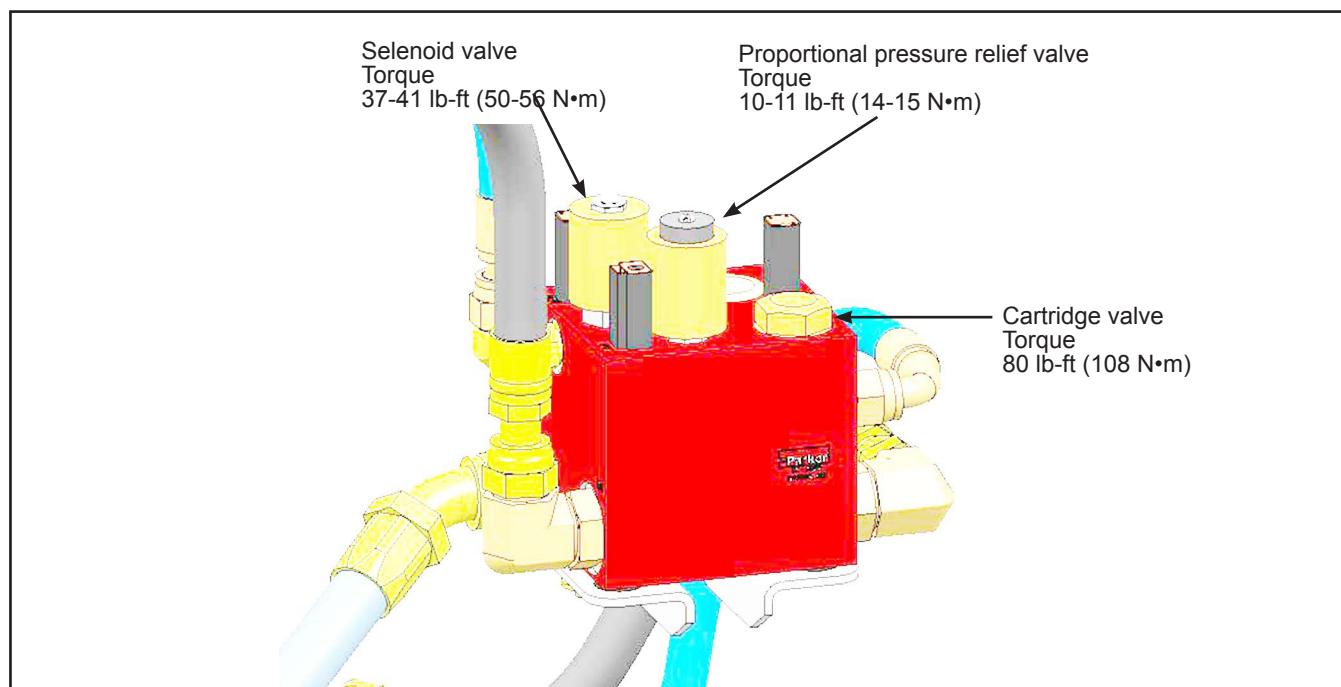

Figure 4 - Valves Torques
- 1.5. Tighten the cartridge valve to the specified torque. See Figure 4.
1.9. Tighten the solenoid valve to the specified torque. See Figure 4.
- 1.13. Tighten the pressure relief valve to the specified torque. See Figure 4.